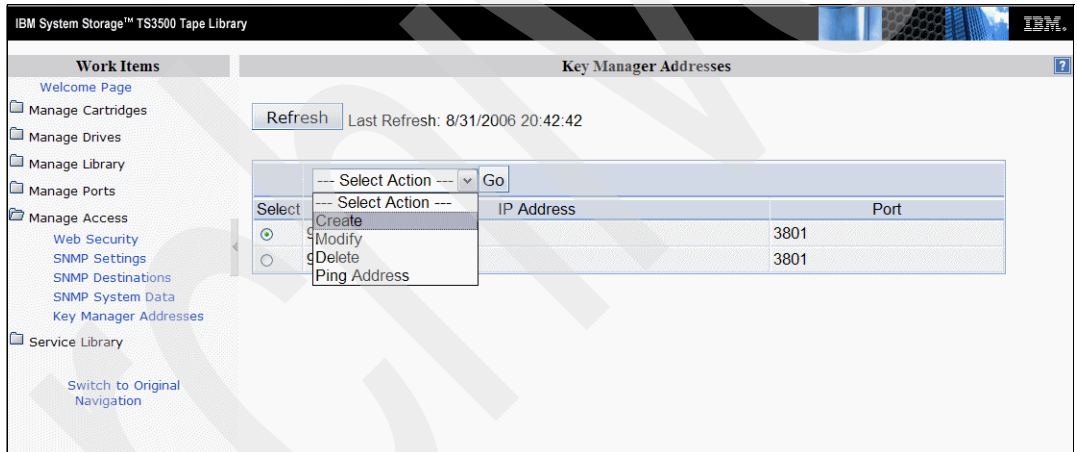

Figure 6-69 Creating a key manager address
- To add a key manager address, select **Create** in the Select Action menu, and click **Go** (Figure 6-69).